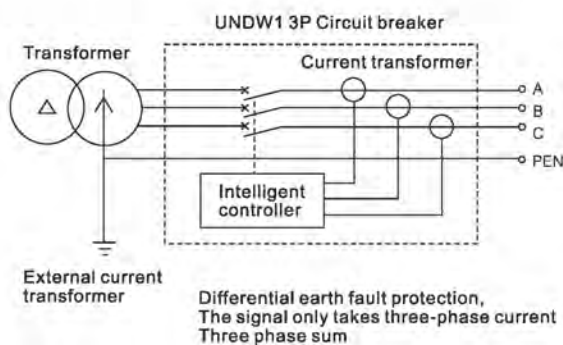
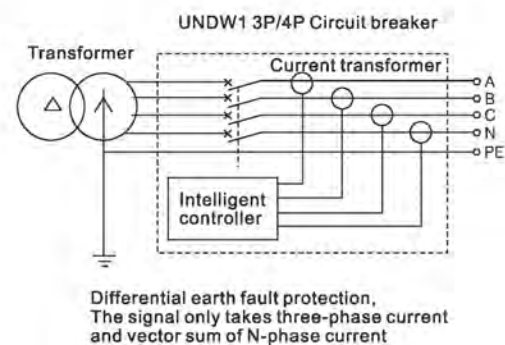
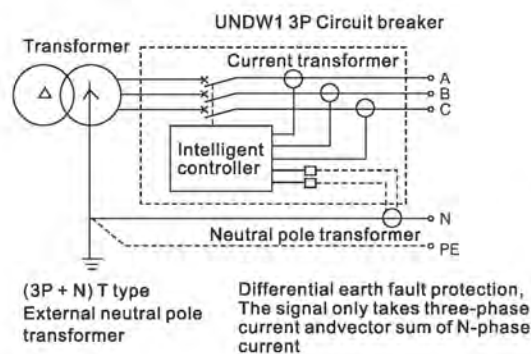

Figure 3. 3PT grounding difference type
Figure 4. 4PT grounding difference type
Figure 5 (3P + N) T grounding difference type
Single phase earth leakage protection refers to metal grounding protection with fault current over several hundred amperes, which is generally used in neutral point direct grounding system. The controller is divided into two different protection modes, one of which is differential type (T). The controller can be divided into 3pt, 4PT and 3P + n according to the vector sum of three-phase current and neutral pole phase current. See Fig. 3, FIG. 4 and Fig. 5 respectively. The other is ground current type (W). The controller directly takes the output current signal of an additional current transformer between the neutral point of the main power supply and the ground for protection, and a neutral pole transformer or current transformer is added between the N line of the transformer and the PE level.